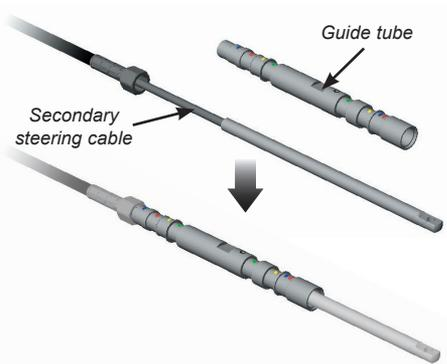

Fig B33 - Fitting the secondary steering cable to the guide tube
- ii) Insert the rod end of the secondary steering cable into the threaded end of the guide tube (Fig B33).